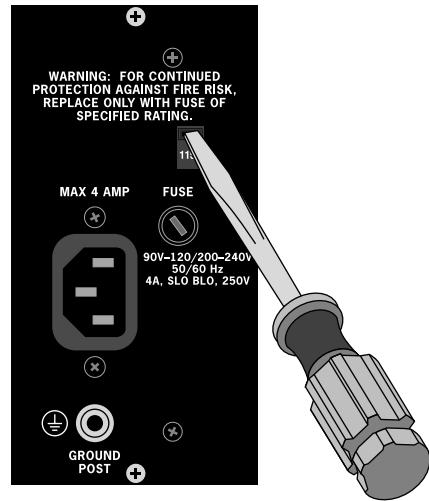

Fig. 1.6—Changing the Line Voltage
2. Using a flat screwdriver, move the notch on the voltage selector as shown in **Fig. 1.6**. so that it shows your local AC line voltage.